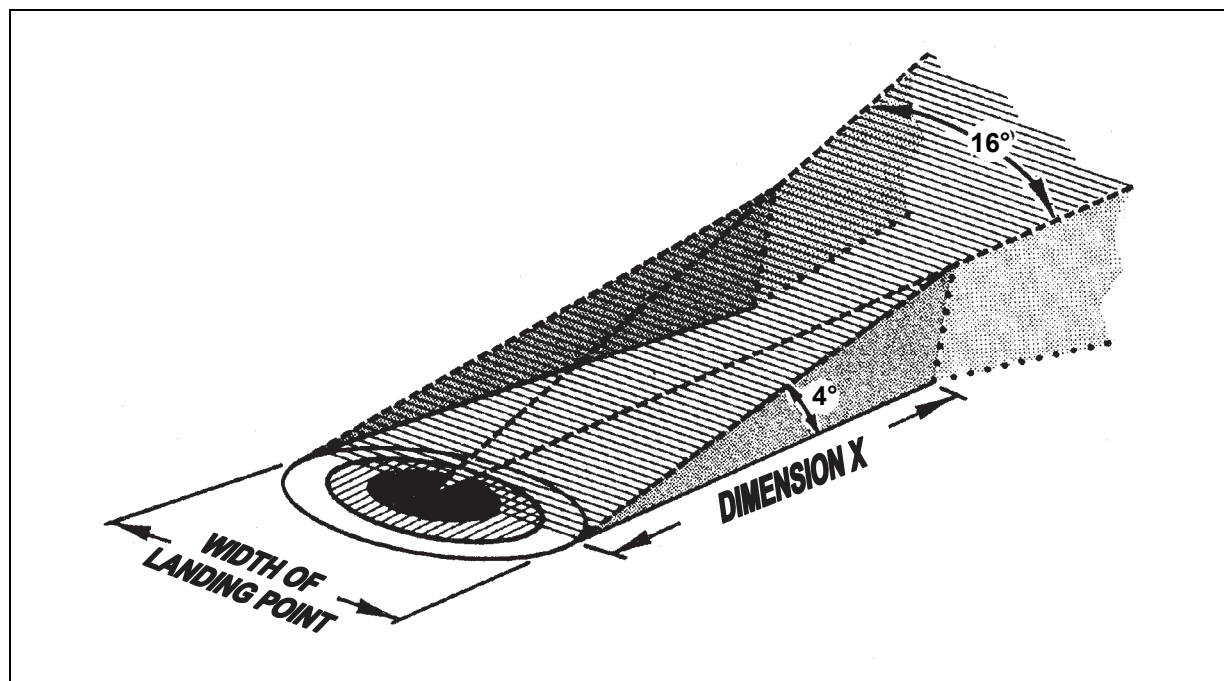

Figure 4-6. Approach and Exit Path
- Approach and Exit Path.** The approach and exit path is a 16-degree (277 mils) sector or arc extending outward and is measured from the center of the landing point (figure 4-6). The V-shaped approach and exit path is depicted by the dashed and dotted line in the illustration. The 4-degree maximum obstruction angle applies to the entire area within the approach and exit